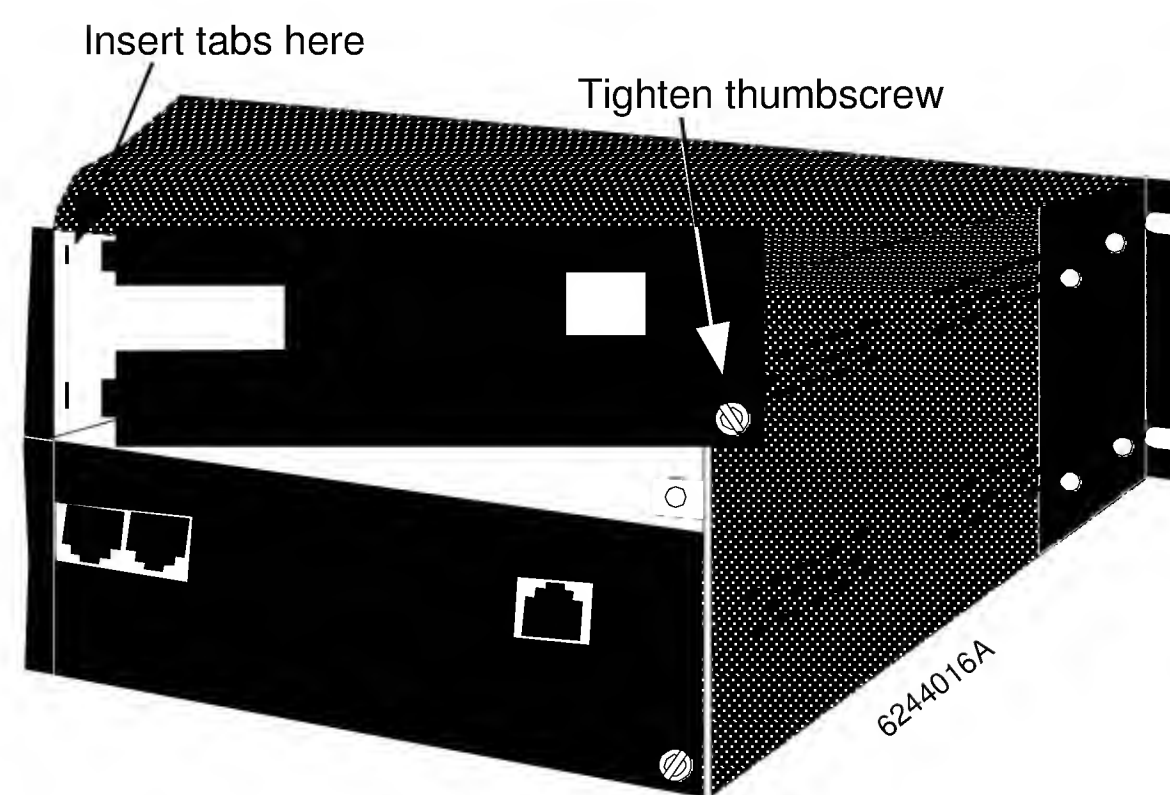

Figure 8. MiniRack - Attach Rear Panel
1. Attach rear panel (Figure 8)